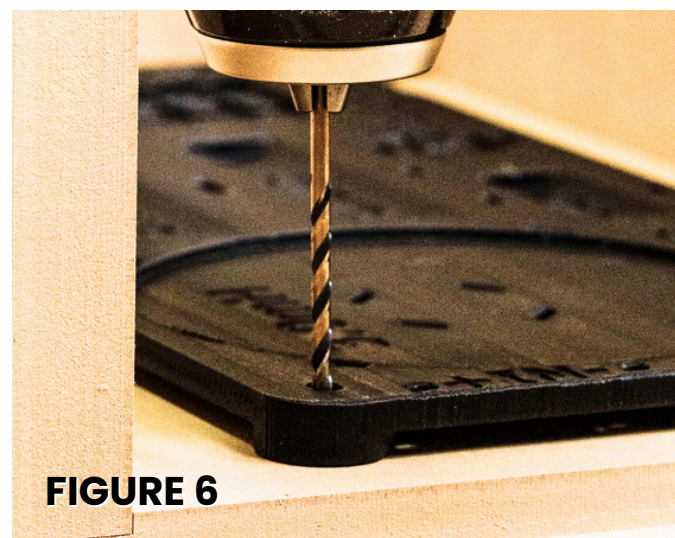

FIGURE 6
5. (OPTIONAL) Before assembly, drill pilot holes for mounting the crossover board using the board as a template (*figure 6*).